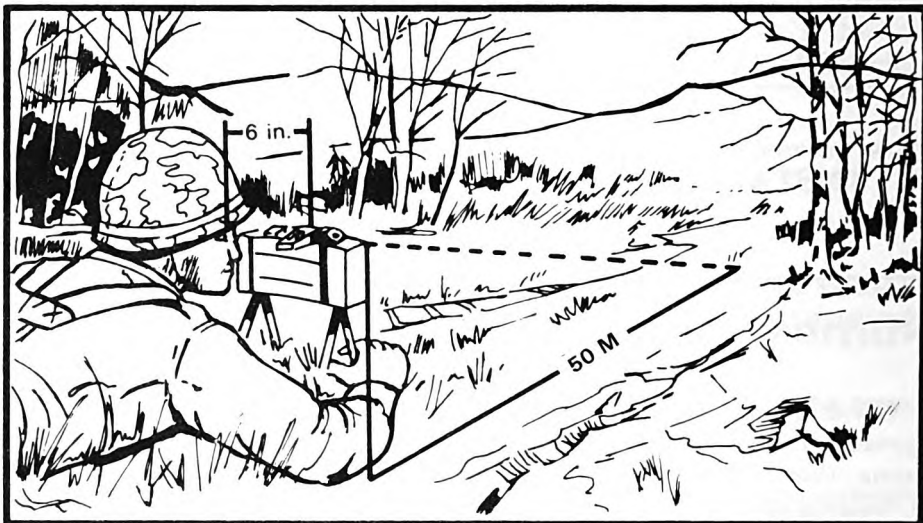

Figure 1.
(1) Check to see that the mine and all accessories are in the bandoleer.
(2) Remove the electrical firing wire, leaving the mine and other accessories in the bandoleer.
(3) Secure the shorting plug end at the firing position. Place the bandoleer on your shoulder and unroll firing wire to the position selected for emplacing the mine.
(4) Remove the mine from the bandoleer and position it with the surface marked "FRONT TOWARD ENEMY" and the arrows on top of the mine pointing in the direction of the enemy or the desired area of fire.
b. Aiming (figure 1). Select an aiming point at ground level that is about 50 meters in front of the mine. Aim the mine by alining the two edges of the sight with the aiming point (figure 1).